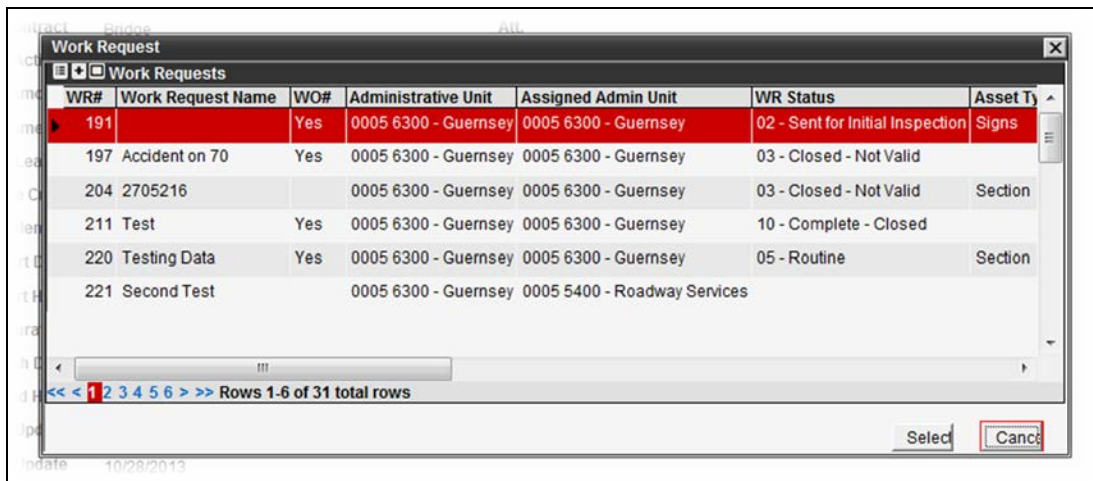

Figure 5-10. Editing Work Request Link Dialog Box Example
1. Point to the Work Order, and perform the **Attach to WR** function from the menu (Figure 5-8). This command opens a list of WR#s for the logged-in Division/Cost Center is presented, to assist the user with selection (Figure 5-10).
TIP! Each WR# may be associated with multiple Work Orders. Therefore, a selectable WR# in this list may already have a WO# "Yes" status (Figure 5-10).
2. To select a WR#, point to the row of the WR# to associate (Figure 5-10), and then select the **Select** button, or to abort the process, select **Cancel**.